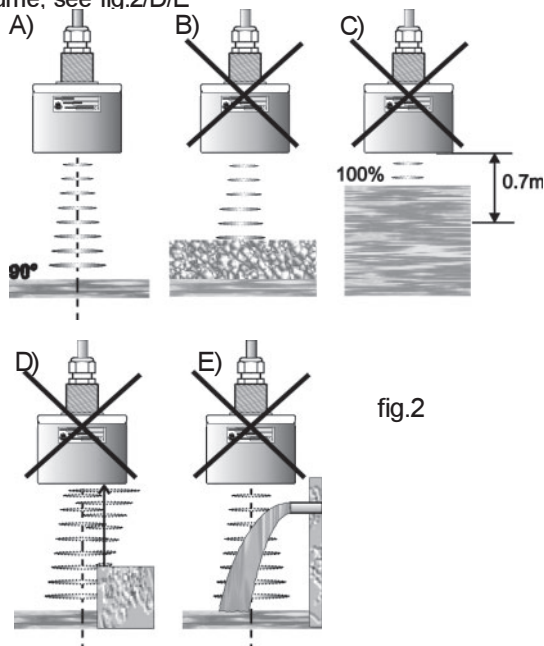

fig.2
To reach a good and safe measurement, avoiding spurious echo (not reflected from the surface to measure) need to take care about the sensor sensibility volume in the sound path, no obstacles or objects must be present into the sensibility volume (lobe), see fig.2/D/E.
On fig.2 some suggestion:
- 1) Install perpendicular at the surface, see fig.2/A
- 2) Don't use with foaming products, see fig.2/B
- 3) Avoid installation where the product distance could be less than 0,7m, see fig.2/C
- 4) No obstacles or objects must be present into the sensibility volume, see fig.2/D/E